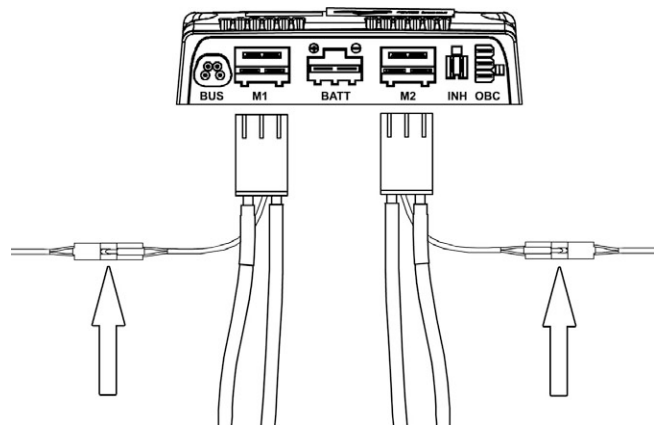

Figure 67. The contacts of the magnetic wheel locks.
4. Connect the magnetic wheel lock to the connector on the cable, next to the connector on the Power Module. See fig. 67.